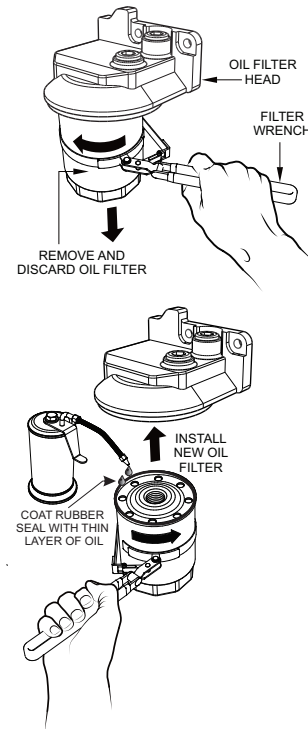

Figure 69. Engine Oil Filter Removal
1. Using an oil filter wrench (Figure 69), remove the engine oil filter.
3. Coat the rubber seal (gasket) surface of the new oil filter (Figure 69) with clean 15W-40 engine oil.